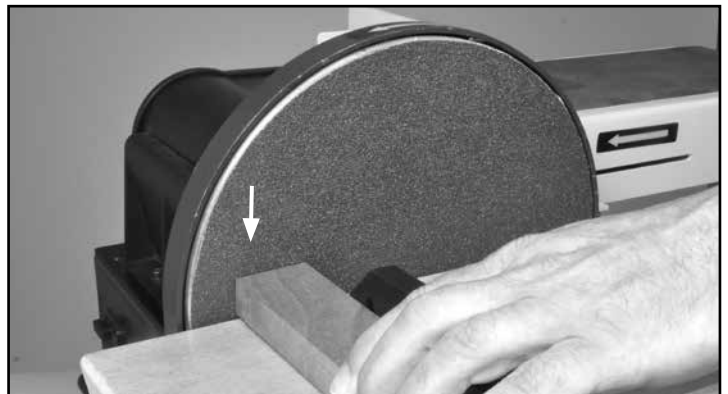

FIG. 30
**WARNING:** When sanding, always position your work on the downward, rotating side (left side) of the sanding disc. FIG. 30. The sanding action will then force the wood down, safely towards the table, where it can be controlled. Sanding on the right, upward rotating side of the disc is dangerous, as your work cannot be controlled and 'kick-back' may occur - the wood being forced up and out of your hands.
1. Depending on your work, set the Sanding Disc Table to the proper angle from 45° to 90°. FIG. 30, 31.
Always sand *outside* curves on your work piece with the sanding belt in vertical position, using the belt's fence for support. FIG. 34. Or sand your work on the left side of center on the sanding disc. FIG. 30 & 31.